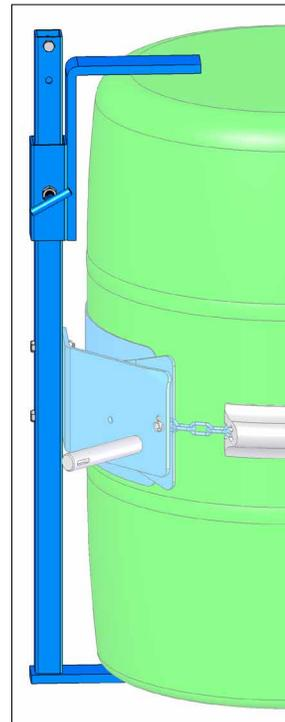

Figure 2.1
- 1. Bracket Assembly Kit # 4556-P** is **required** to handle a RIMLESS plastic drum (figure 2.1), and is also recommended for a fiber drum. The Bracket adjusts for a 31" to 39" (79 to 99 cm) tall drum. You can also handle a rimmed drum with the Bracket installed.
There are two functions for the operator to control (Figure 2.1):